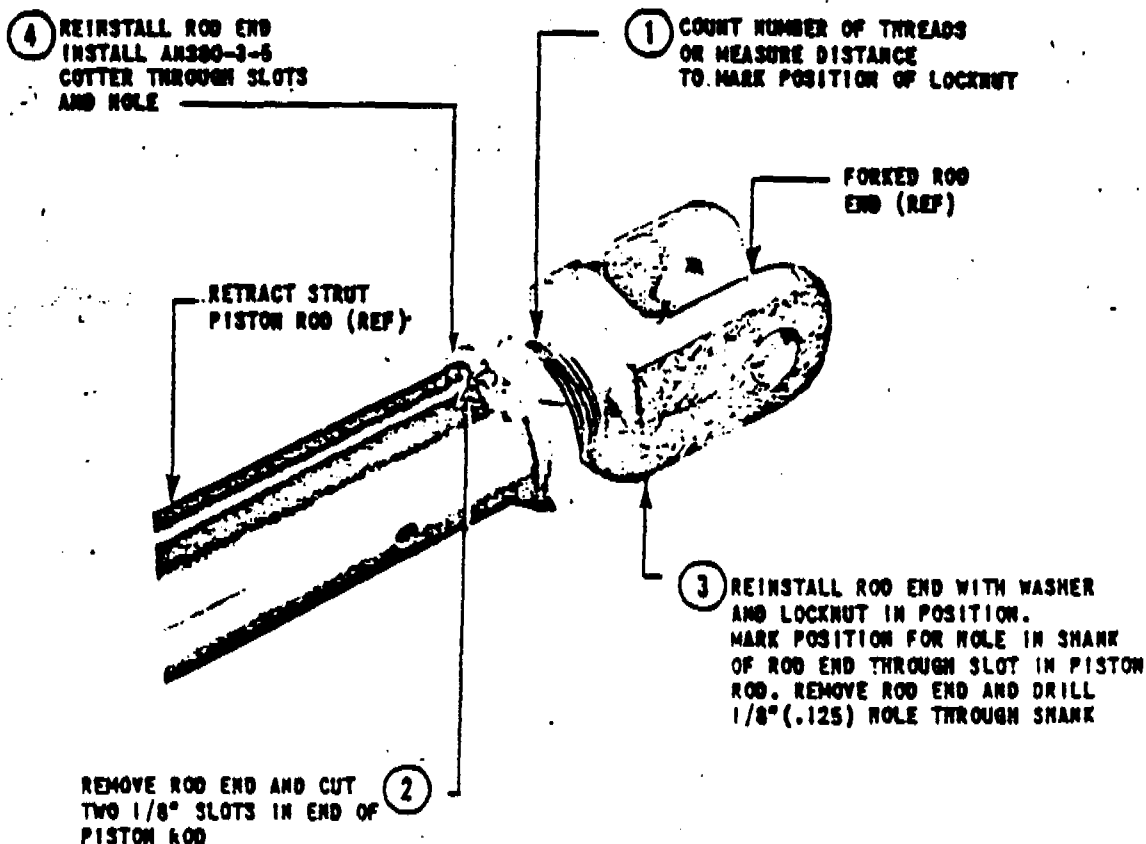

Figure 1 - Rework of Landing-gear Retract Strut
a. (See figure 1.) Locate the piston rod in the retract strut in the aft portion of the wheel well.
c. (See figure 1.) Cut two 1/8-inch square slots, one opposite the other in the outboard end of the piston rod. Clean out all metal chips and filings.